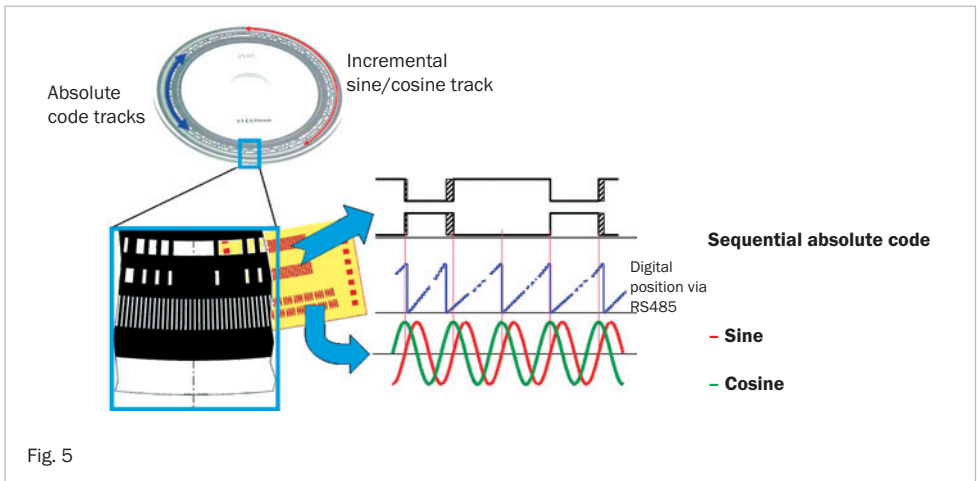

Fig. 5
- the absolute position is determined via separate code tracks and, therefore, differs slightly from the position interpolated from the analogue signals (see figure 5). Therefore, this phase position can change by up to $\pm 4/32$ of a period, within a turn.